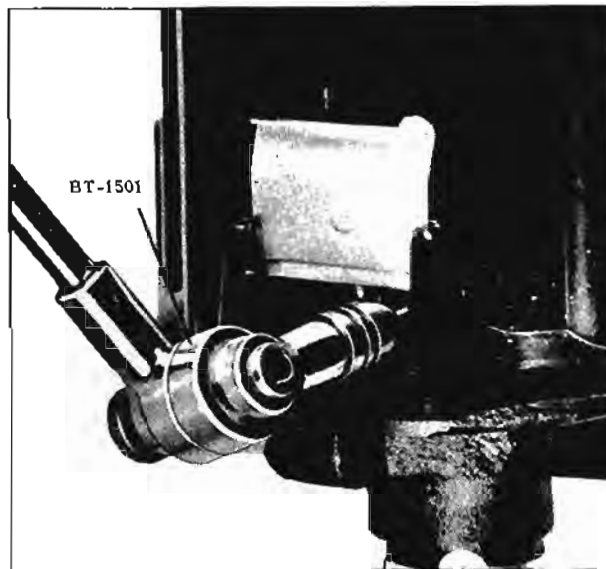

Fig. 10-2 Adjusting Dwell Angle
2. With engine running at idle speed, insert Dwell Adjusting Tool J-6296 or BT-1501 through distributor window into the head of the adjusting screw. (Fig. 10-2) Adjust dwell angle to 30°.